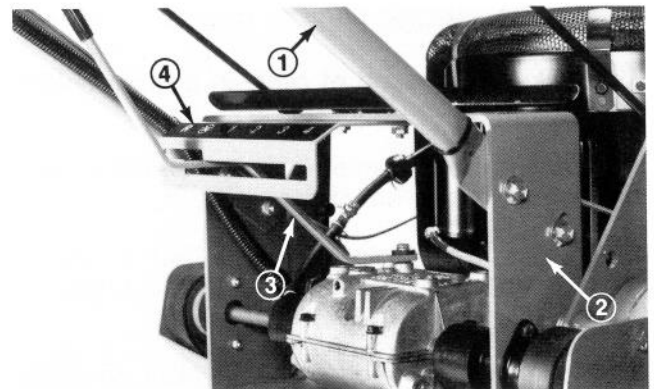

Figure 1
1. Align upper handle mounting holes with mounting holes in frame and secure each side with (2) 3/8-16x1" lg. flange capscrews and flangenuts (Fig. 1).
1. Insert shift lever thru slot in control panel and align mounting hole in lever with mounting shaft on transmission. Do not remove rubber washer on top of transmission. Secure lever to transmission with 1/4-28x3/4" lg. capscrew, lockwasher and plain washer. Torque capscrew to 100-125 in. lb (Fig. 1).